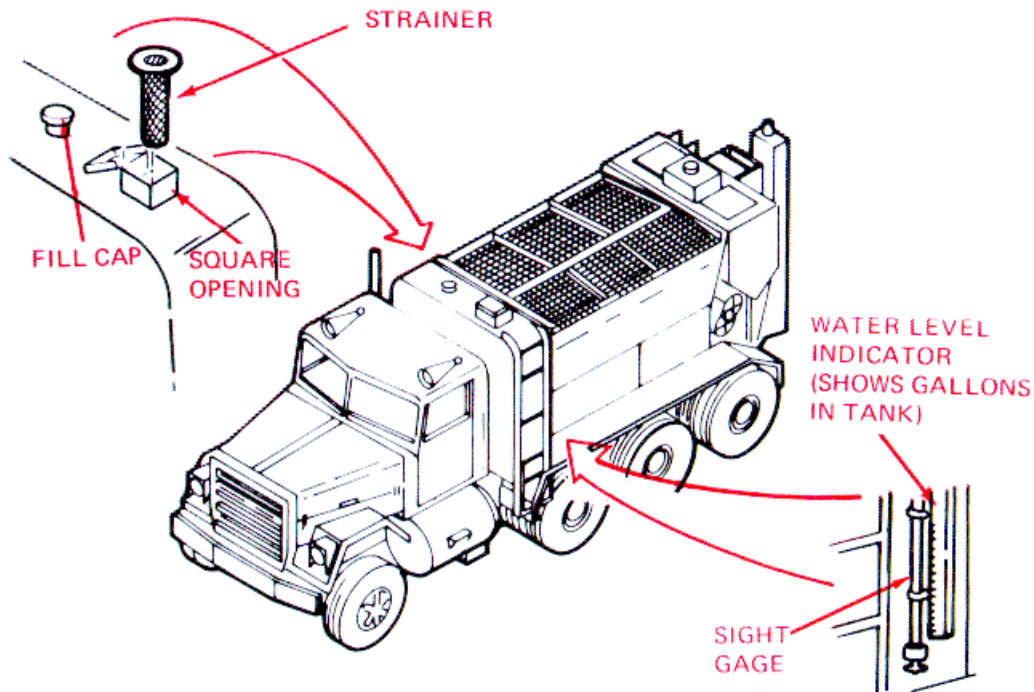

Figure 2-15. Filling the Water Tank
- d. If you are using non-potable water (not fit for drinking) you must fill through the square opening. (There is a cylindrical strainer in this opening). Otherwise you may use whichever fill hole is easier (fig. 2-15).
- e. Fill the tank to the desired level. You can tell how full the tank is by watching the water level in the sight gage. Next to the tube are markings telling you how many gallons are in the tank (fig. 2-15).
- f. When the tank has been filled, rinse out the inlet strainer (fig. 2-15) (if you used it). Put it back in the square opening.
- g. Put the fill cap (fig. 2-15) back onto the fill opening